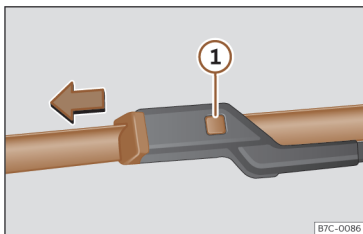

Fig. 180 Changing the windscreen wiper blades
- Press and hold release button >>> **Fig. 180** ① and pull gently on the wiper blade in the direction of the arrow.